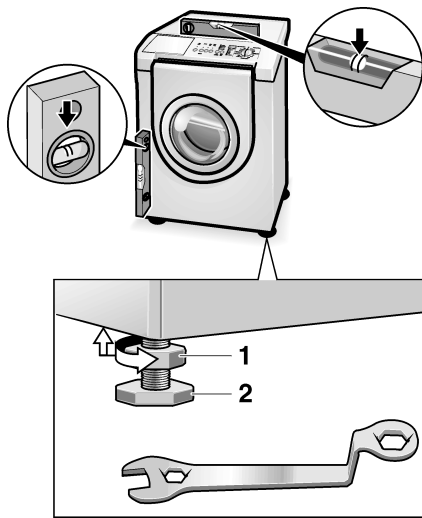

Figure 17
- Loosen the lock nut (see Figure 17, item 1) by turning it clockwise. Use the wrench provided (or a 5/8" – 16mm open end wrench). When you turn the lock nut, the foot (see Figure 17, item 2) it is locked against will turn with it. This will extend the height of the foot.